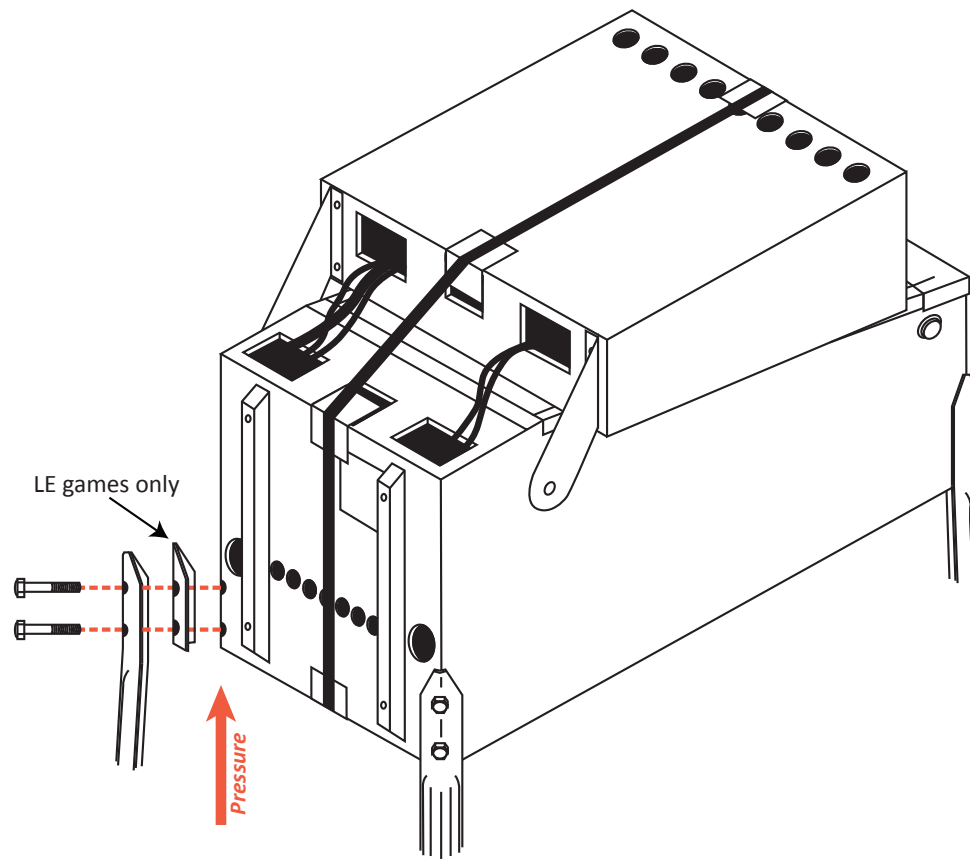

Figure A6. Installing the rear legs and cabinet protectors.
6) With the help of at least one other person, carefully tip the game onto its front legs. Lift the rear of the cabinet and have two people support it or place it on a sturdy support. As with the front legs, attach the two rear legs, using the four remaining acorn-head bolts and two cabinet protectors (LE games only). Tighten all bolts firmly, while maintaining upward pressure on the legs (see figure A6). Lower the game onto its legs.